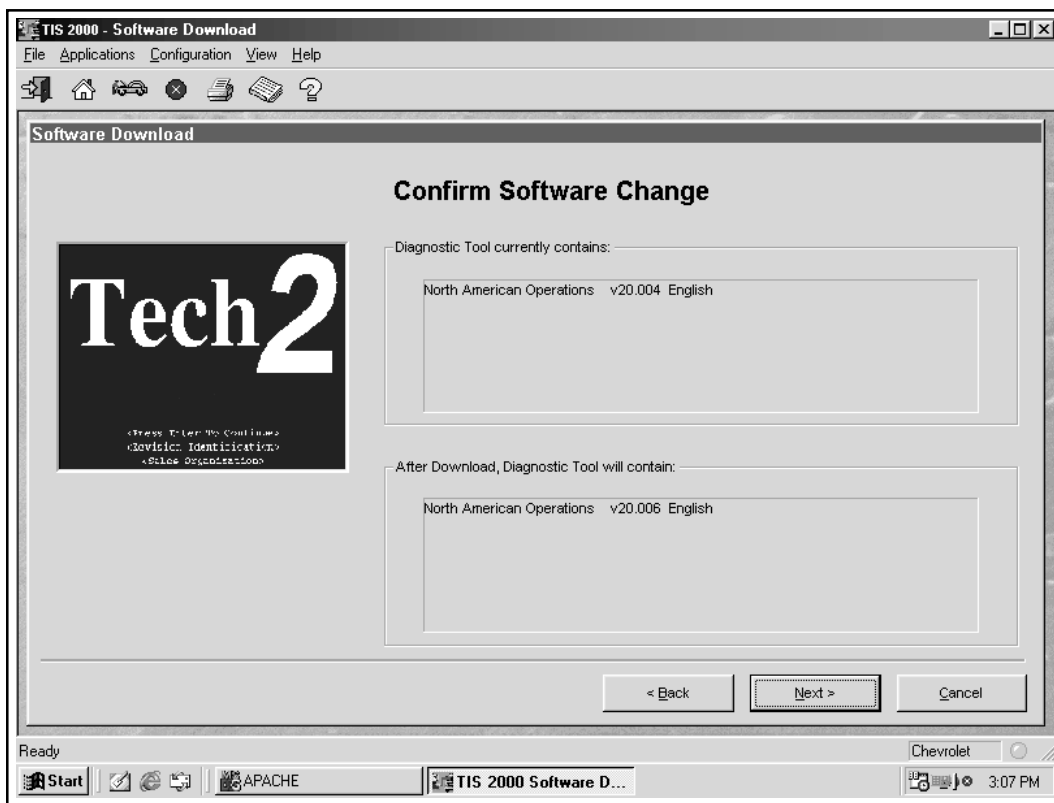

Figure I-57, Confirm Update File
6. The PC will display a **Confirm Software Change** screen (Figure I-57) showing what the Tech 2 currently contains and what it will contain after the download. Click **Next** to continue.